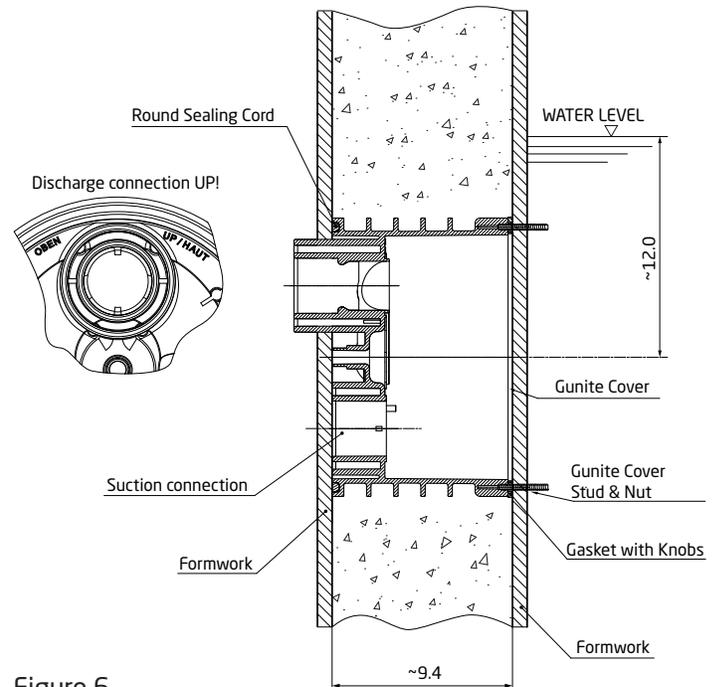

Figure 6
- Place the jet housing between the steel rebar with the back of the jet housing against the hole in the outer wall formwork. Jet housing location is very important (See Figure 6).
- Place the inner wall formwork on the front of the jet housing, lining up the pre-drilled holes with the holes in the gunite cover/jet housing. Secure the formwork to the jet housing with four (4) M8 x30 screws (part# 52).
- Place the jet housing between the steel rebar. Jet housing location is very important (See Figure 6).